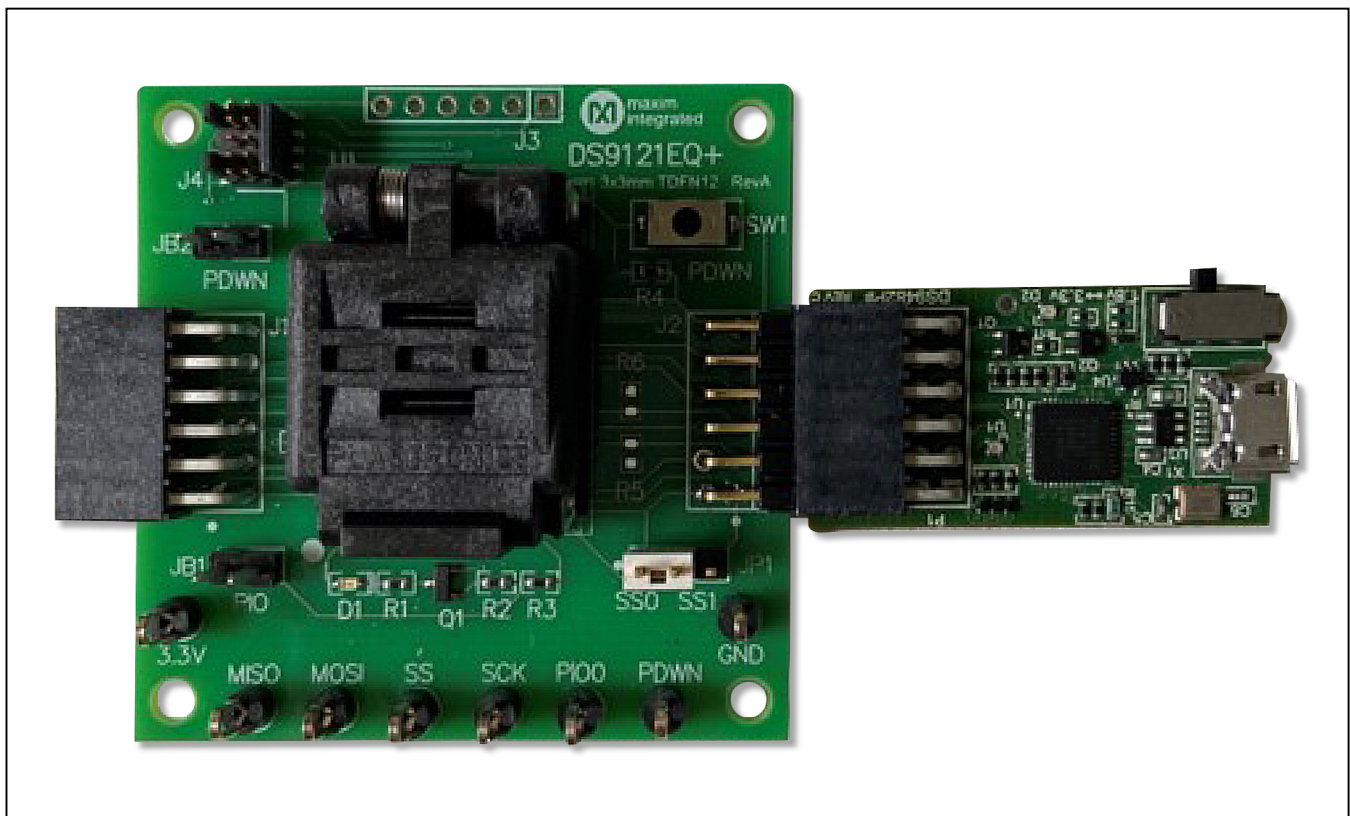

Figure 8. DS9482P# and DS9121EQ
- c. Connect the DS9121EQ J2 12-pin male plug into the DS9482P# 12-pin female socket per Figure 8.